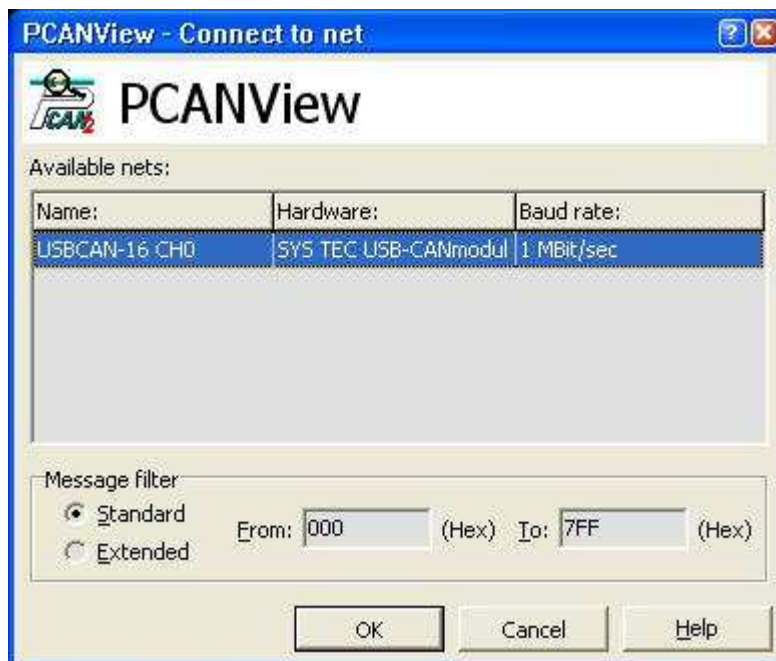

Figure 6: *Dialog Box Message Filter Configuration*
- n If this parameter is set, the dialog box to configure the message filter will be skipped (see *Figure 6*). In this case all CAN messages will always be received.